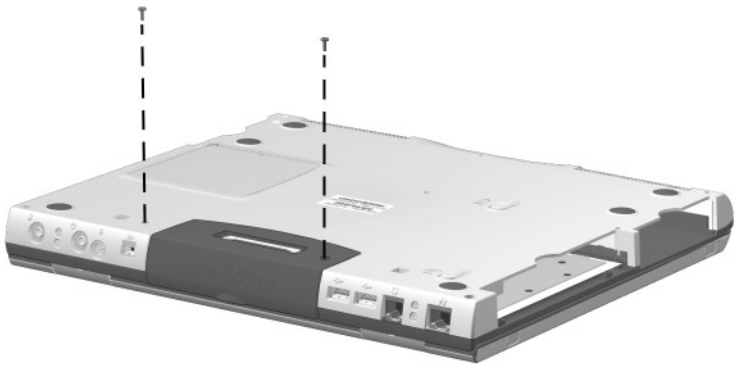

Figure 5-9. Removing the Switch Cover Screws
3. Remove the two black M2 × 9 screws (Figure 5-9).